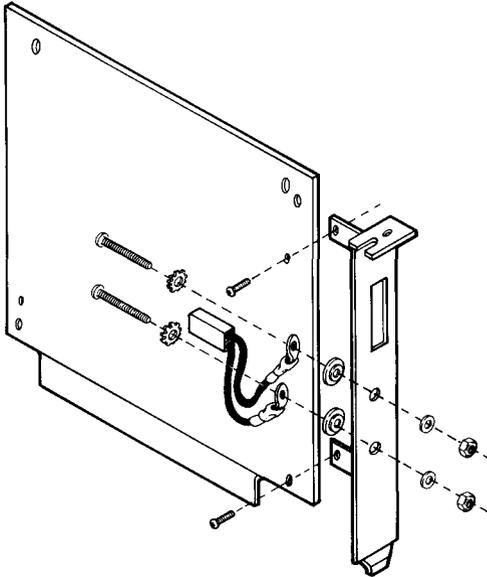

Figure 3.
7. Install these screws, plastic washers, nuts and the small harness assembly on the supplied alternate mounting bracket as shown in Figure 3. The polarity on the wire harness does not matter, therefore, either ring terminal on the wire harness can be used with either screw. Be sure the shouldered plastic washers are seated in the bracket holes so that the screws are insulated from (that is, do not touch) the mounting bracket. Also be sure that the harness wires do not show through the switch setting opening in the mounting bracket.